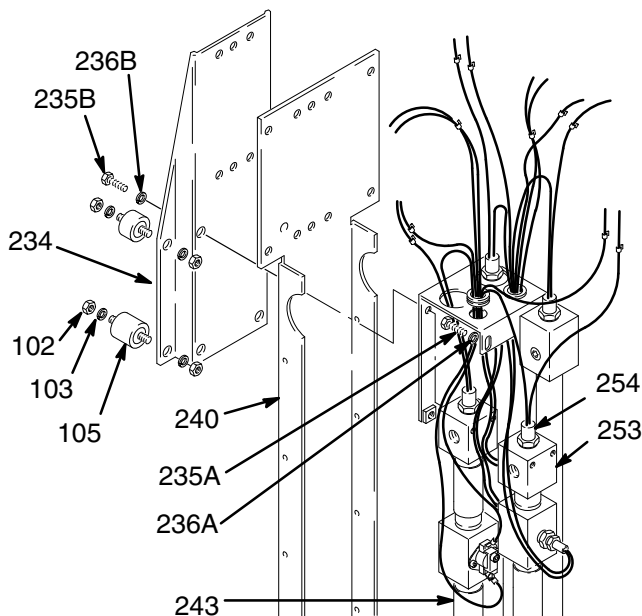
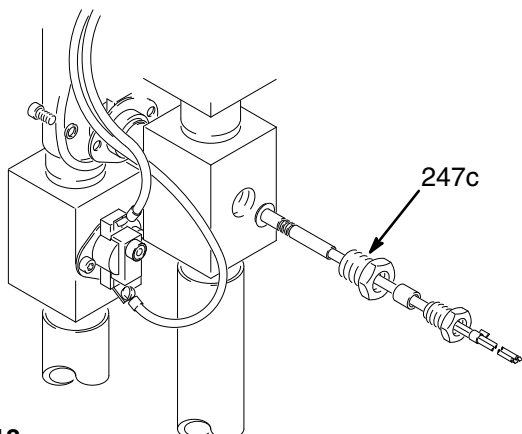
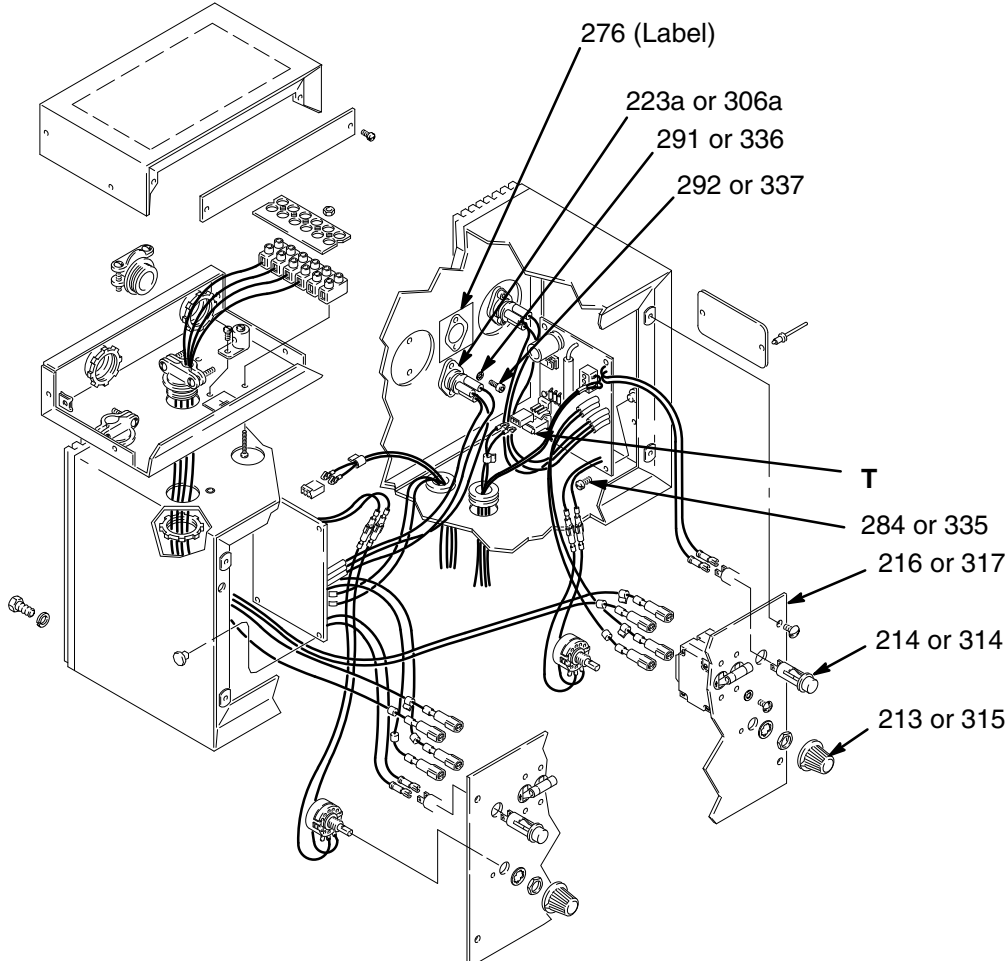

Fig. 17
Fig. 18
Fig. 20
NOTE: Refer to Fig. 17 except where noted.
3. Connect the control panel cover (216) to the control box with one screw to keep it out of the way. See Fig. 20, page 30.
4. Remove the front heater cover (238). See page 39. Disconnect the heating element wire from the thermostats.
6. Remove all four nuts (102) and lockwashers (103) from the side flanges of the heater mounting bracket (234). See Fig. 17.
9. From the back of the heater mounting bracket (234) remove the top screws (235B) and lockwasher (236B) only from the side of the heater you are working on.
10. Push the heater element tube (243) up slightly, tip the bottom of the tube out and away from the rear panel, and then pull it away from the heater. Keep the tube upright to avoid spilling any fluid left in the tube.
11. *If the front heater element is bad*, loosen the adapter (247c) one turn. Refer to Fig. 18. Unscrew the heater element and pull it out of the tube.
4. Unplug the wires of the indicator light (214 or 314) from behind the control panel (216 or 317). Unplug the wires from the triac (223a or 306a), noting the position of the wires. See Fig. 20 and 21.
7. Remove and keep the screws (284 and 335) from each corner of the circuit board. Remove the board. See Fig. 20.
1. Apply conductive paste (Graco P/N 110-009) to the bottom flange of the triac (223a or 306a). Position the triac as shown in Fig. 20. Use the screws (291 or 336) and lockwashers (292 or 337) to mount the triac to the back of the control.
3. Plug in the triac wires, if not plugged in. See Fig. 13, page 25. Verify the triac wiring with the label (276) located inside the control box. See Fig. 20, page 30.
4. If used, plug the ATC connector (T) into the circuit board position J1. Otherwise, make sure the 2 pin connector is installed at J1 with the 47.5K resistor. See Fig. 20 and 21.
6. Plug the indicator light leads (214 or 314) into the rear of the indicator light. See Fig. 20 and 21.
7. Plug in the wires leading to the TEMP SET dial (213 or 315). See Fig. 20 and 21.
8. Plug the sensor probe connector P2 into the circuit board at position J2. See Fig. 20 and 21.